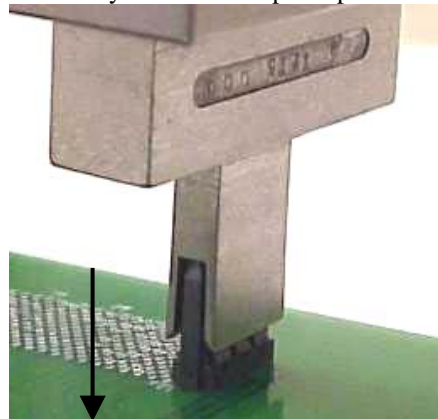

Figure 3
Step 5 Bring the seating head directly over the backplane power module (see Figure 3).